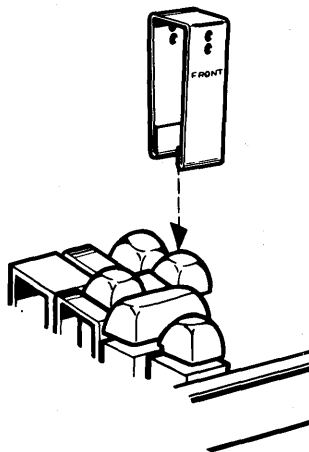

Fig. 6—Data Key Removal
- (b) To remove data keys, place 346260 tool over key and pull up to remove (Fig. 6).